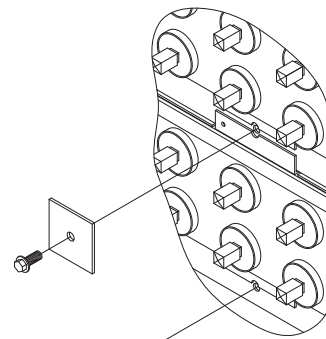

FIGURE 7a
- For each cell module, install retainer plates, using a M10x1.5 - 25mm Serrated Hex Bolt. See Figure 7. The middle rows use a flat retainer, the top and bottom rows use a retainer with a formed edge. See Figure 7a & 7b.